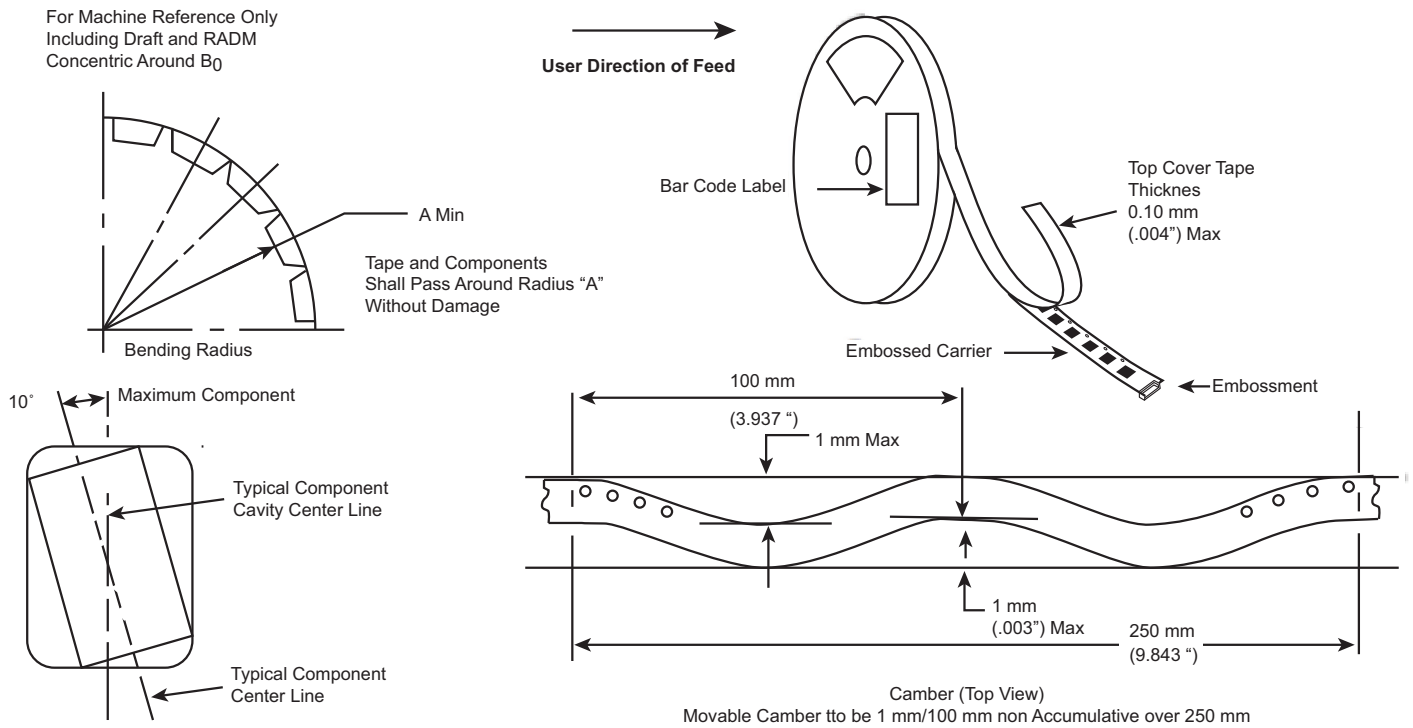

**Figure 15. JEDEC tray examples**
- Freescale complies with standard JEDEC tray design configuration – See Figure 15.